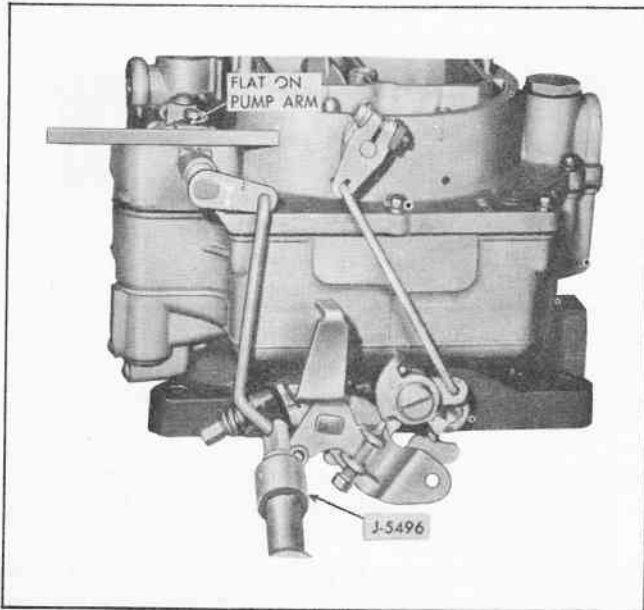

Fig. 26 Accelerating Pump Arm Adjustment
2. Hold straight edge across top of dust cover boss at pump arm (Fig. 26). Bend throttle connector rod at lower angle (use tool J-5496) until flat on top of pump arm is parallel with straight edge while throttle valves are seated (Fig. 26).